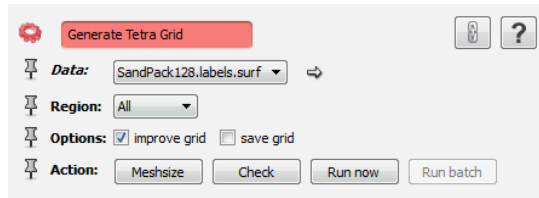

Figure 5.13: *Generate Tetra Grid* module.
- Connect a *Generate Tetra Grid* module to the surface (see Figure 5.13).